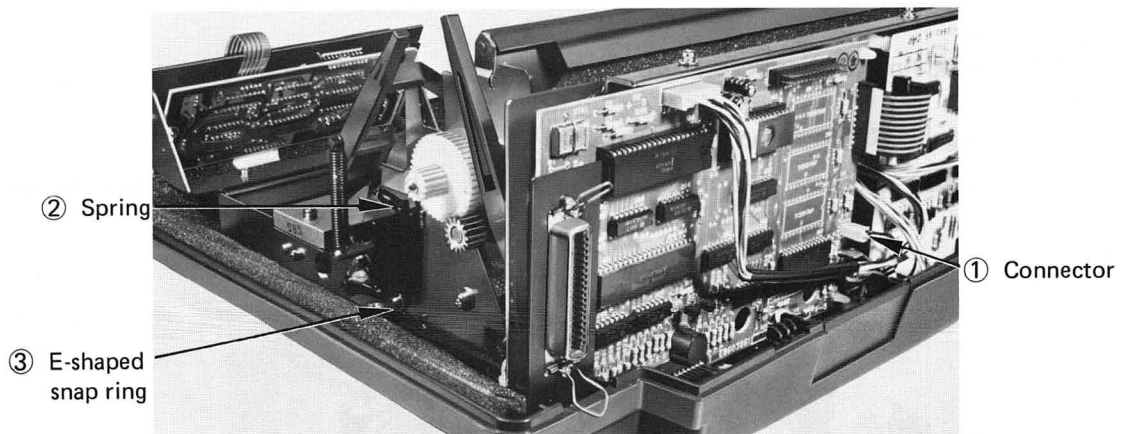

Fig. 5.39
Step 1. Remove the circuit board cover and then remove connector ①. (Fig. 5.39)
Step 2. Take off spring ② and E-shaped snap ring ③, and then remove the bail switch unit. (Fig. 5.39)